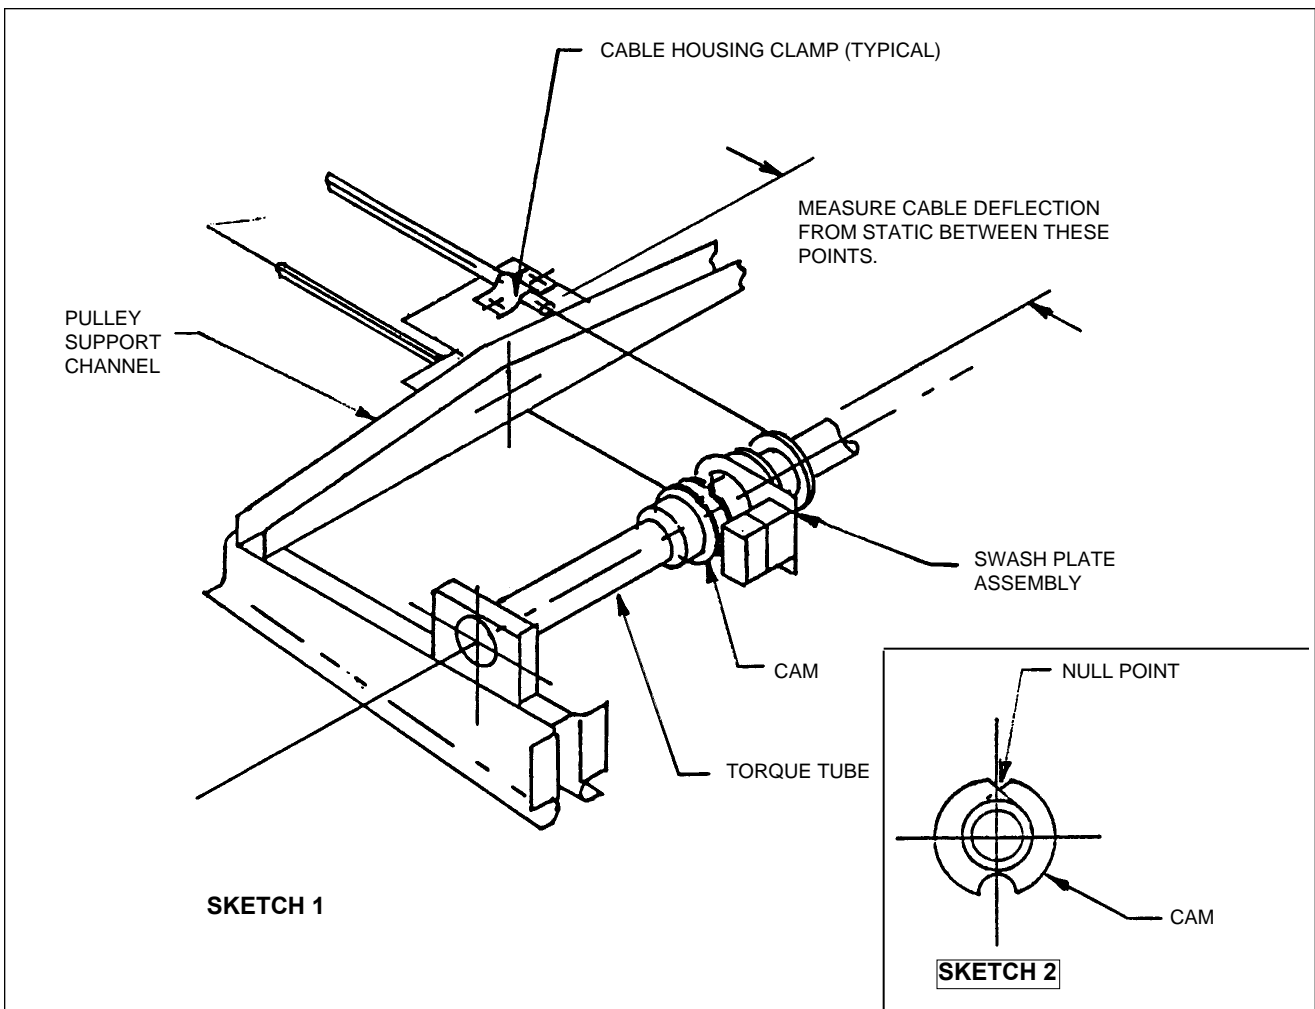

Figure 27-24 Rigging of Flap Cam-Cable Assembly
- 3 Loosen cable housing clamps at pulley support channel. Adjust cable tension so that a 5 ± 0.5 pound pull midway between cable housing clamps and swash plate assembly will deflect the cable 0.38 inch from relaxed position. Tighten cable housing clamp. (Refer to Figure 27-24.)
3. Run the actuator out so that there is 0.10 inch clearance between the torque tube and the actuator pushrod. (Refer to Figure 27-24.)
6. Loosen the set screw in the cam and rotate until the flap in-transit light is out. (Refer to Figure 27-24.)